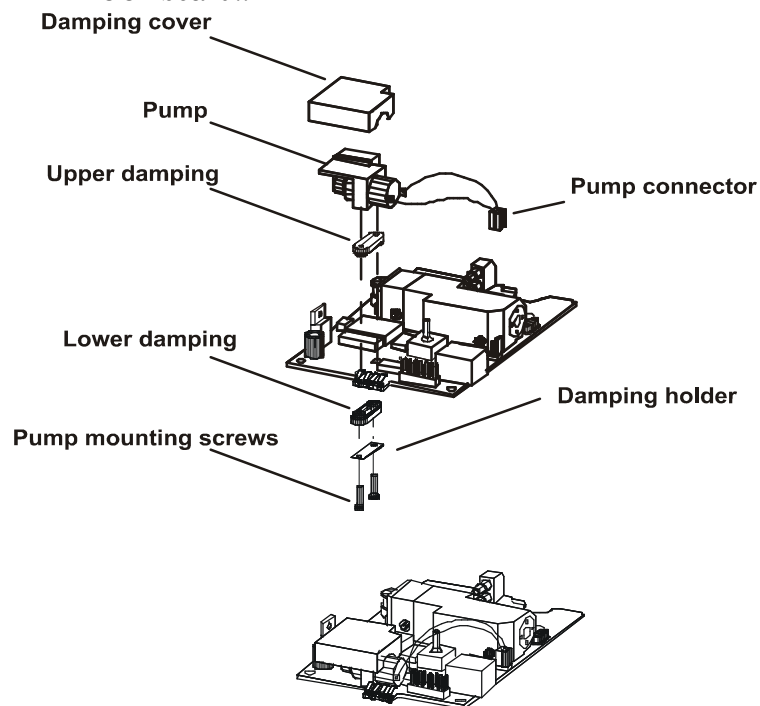

Figure 7-5: Replacing the Pump
7.4 REPLACING THE PUMP (REFER TO FIGURE 7-5)